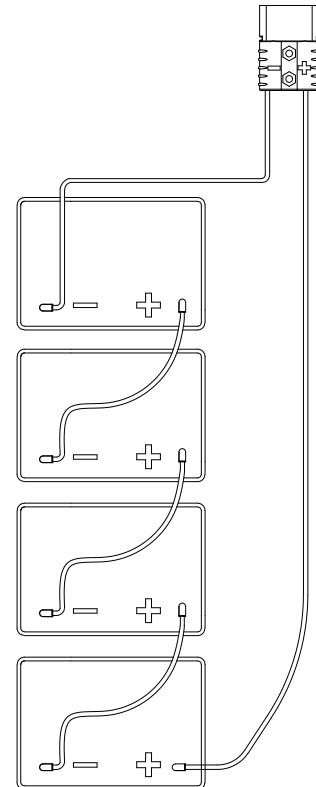

Figure 6
The machine requires four 6V batteries, connected and installed in the positions shown in Figure 6.
4. Route and install the battery cables as shown in (Figure 6), then carefully tighten the nut on each battery terminal.